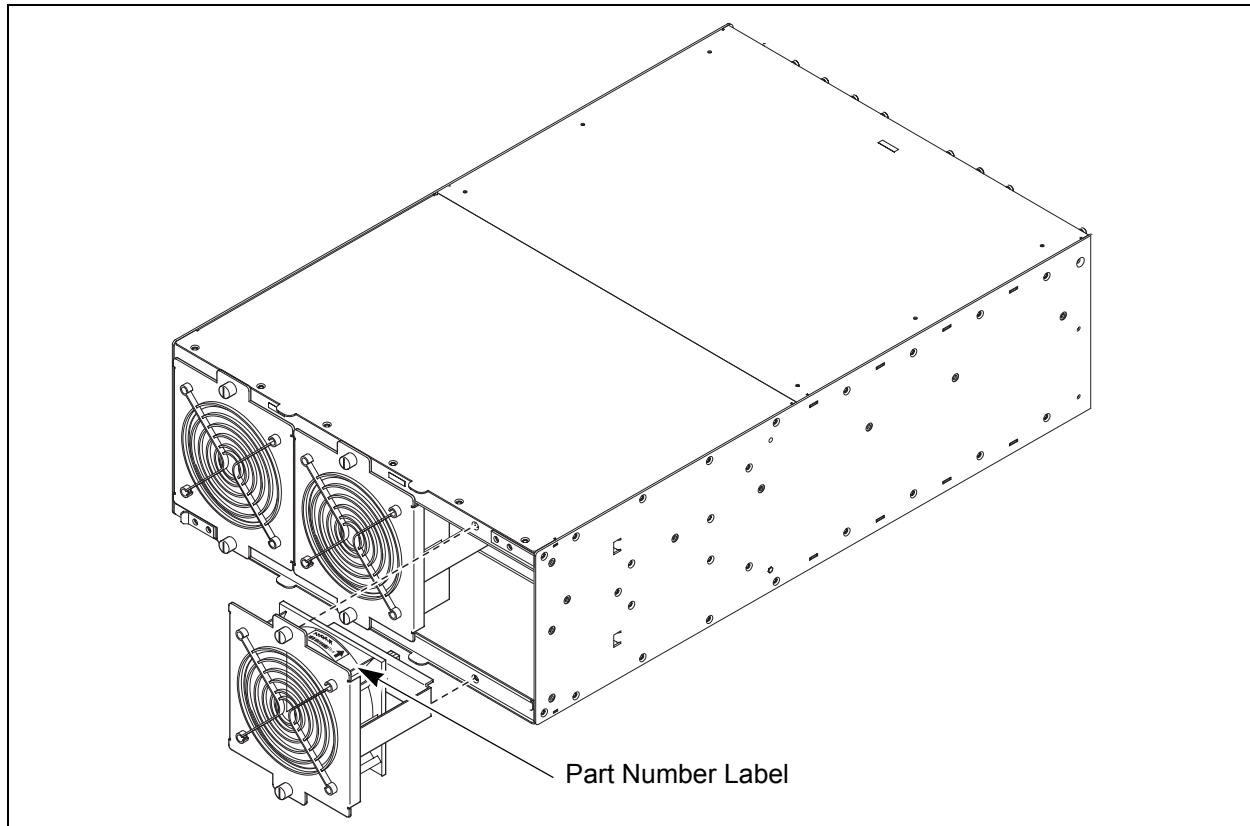

Figure 6-9. Installing a Fan
1. Confirm that the new fan has the same air flow direction as the old fan. Each fan has a part number label indicating the air flow direction as shown in Figure 6-9.